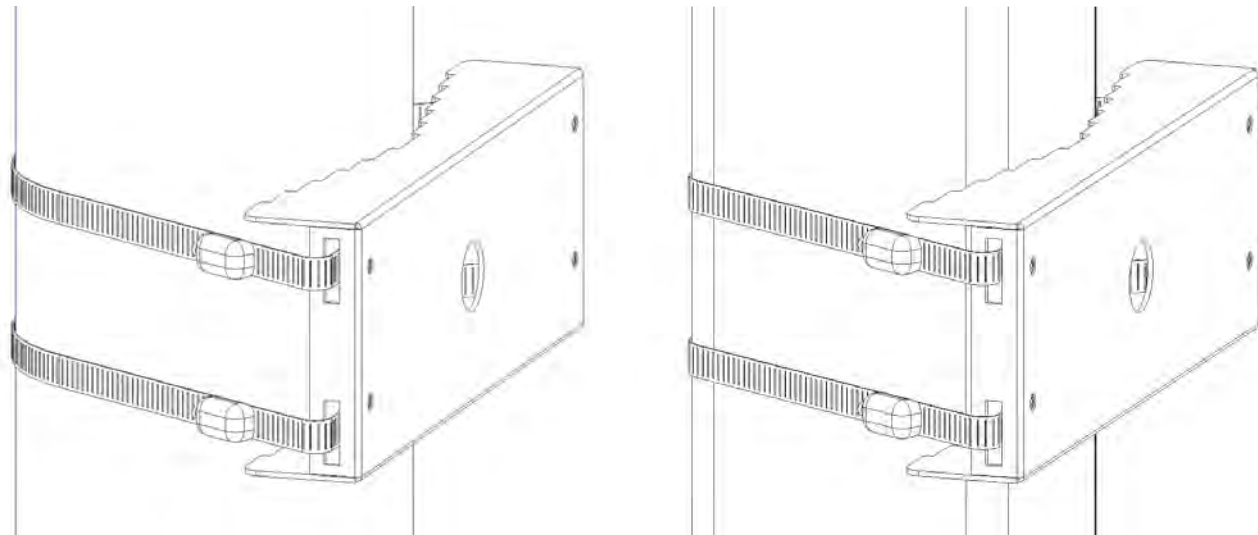

Figure 1 - Round and Square Pole Mounting
Step 1 – Slide the Worm Gear Clamps through the side slots of the Pole Mount Bracket, and fasten the clamps around the round pole or square pole (Figure 1). Note, the included clamps only work for poles ranging from 5 inches to 9 inches diameter.